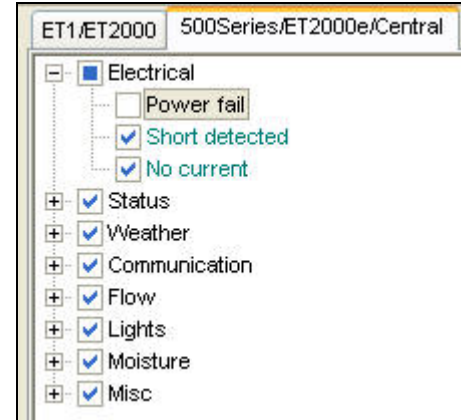

Figure 8.5.3
- All boxes checked will be viewed in the Alerts report (Figure 8.5.3).
- Any box left unchecked will not be viewed in the Alert report (Figure 8.5.3).
- Any grayed out box next to a heading indicates that selected alerts under that heading will not be viewed in the Alert report (Figure 8.5.3).